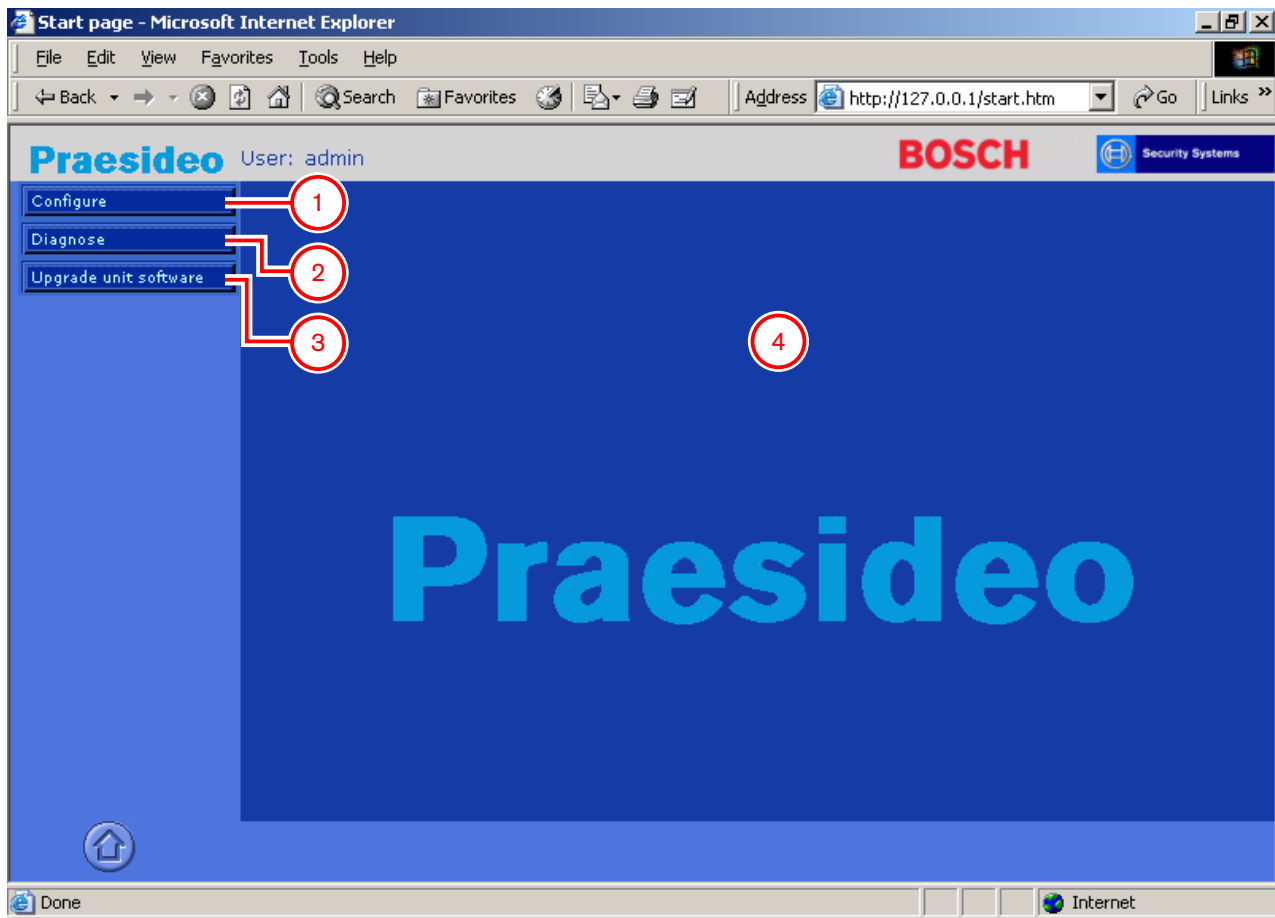

figure 31.4: Web interface elements
- 5 Enter the user name in the *User Name* field, enter the password in the *Password* field and click *OK* to open the web interface. A screen similar to the one in figure 31.4 appears.
The web interface (see figure 31.4) contains the following elements: